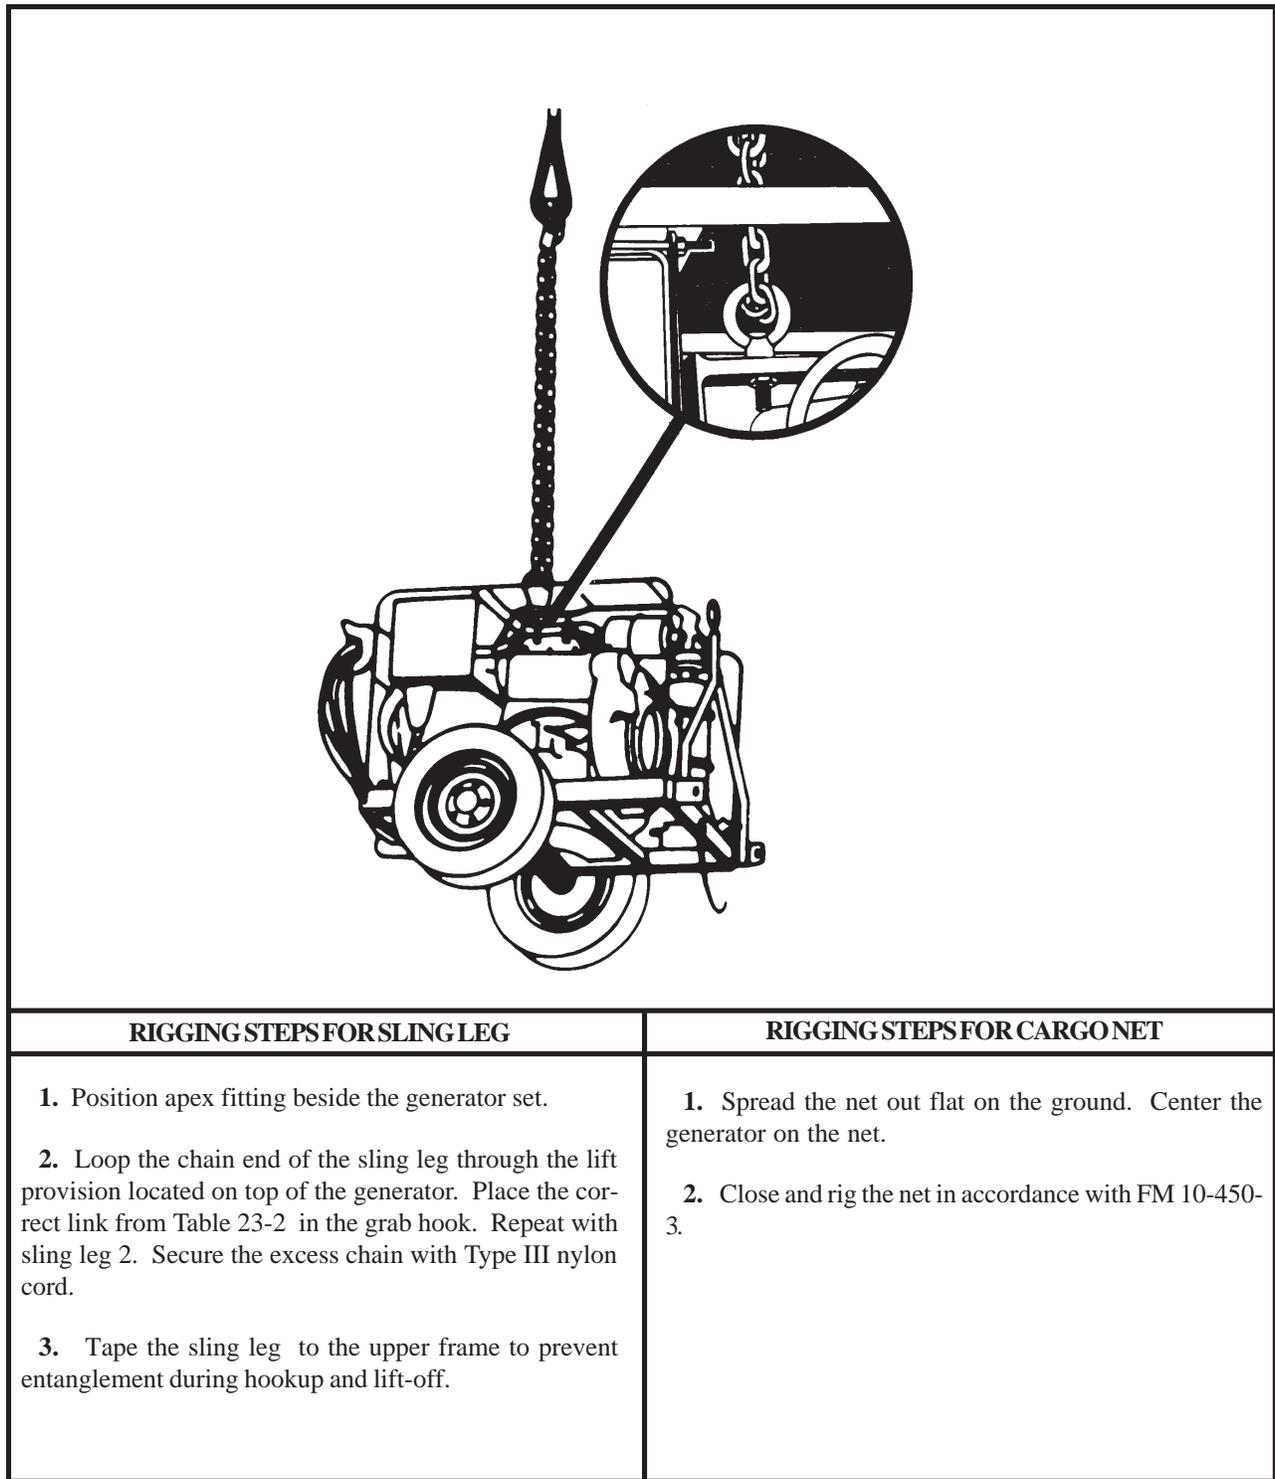

Figure 23-2. 7.5KW Generator Set
(2) **Rigging.** Rig the load according to the steps in Figure 23-2.
(4) **Derigging.** Derigging is the reverse of the preparation and rigging procedures in steps d (1) and d (2).